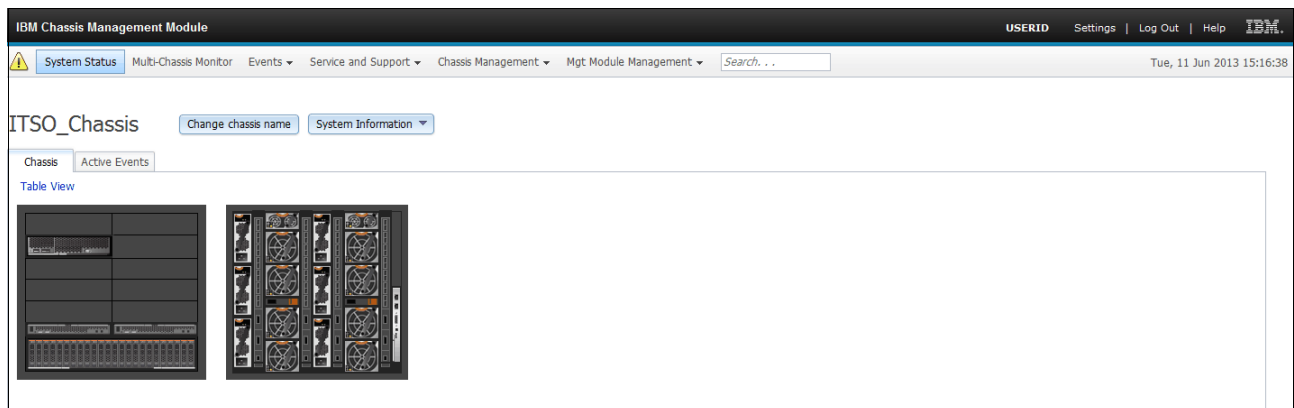

Figure 3-6 IBM Flex System Chassis Management Module
3. After a successful login, CMM opens the default view showing the Chassis Map, as depicted in Figure 3-6.
**Disclaimer:** In Figure 3-6, and also in some preceding figures, you might find a *yellow* exclamation point on the top left of the CMM interface along with yellow boxes around some components, indicating a error condition. The reason for this visual discrepancy is that the various components of the chassis were being tested during the time of writing of this book.